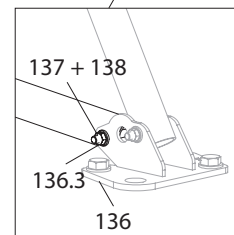

Fig. A15.06b
1. Fit an inner tube (135.2) onto the front hole (136.3) of the base plate (136) by means of bolts (137) and nuts (138). (Fig. A15.06b).